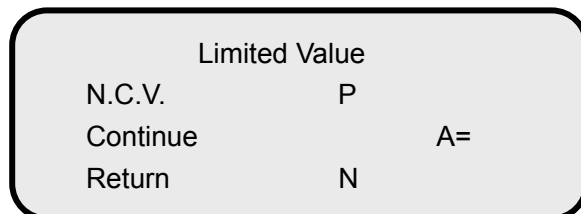

Fig. 10: Limited Value Input
2. After you enter the value, the cursor will stay on **Continue**. Press **Enter** key to go to sub menu (Fig. 10). If you want to return to the main menu, press **Reset** key; if you want to return to the